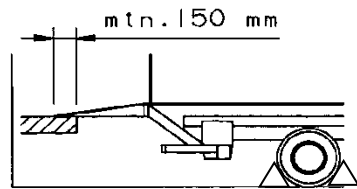

FIG. 1
- The platform must sufficiently overlap with the ramp to obtain safe loading surface (Fig. 1)